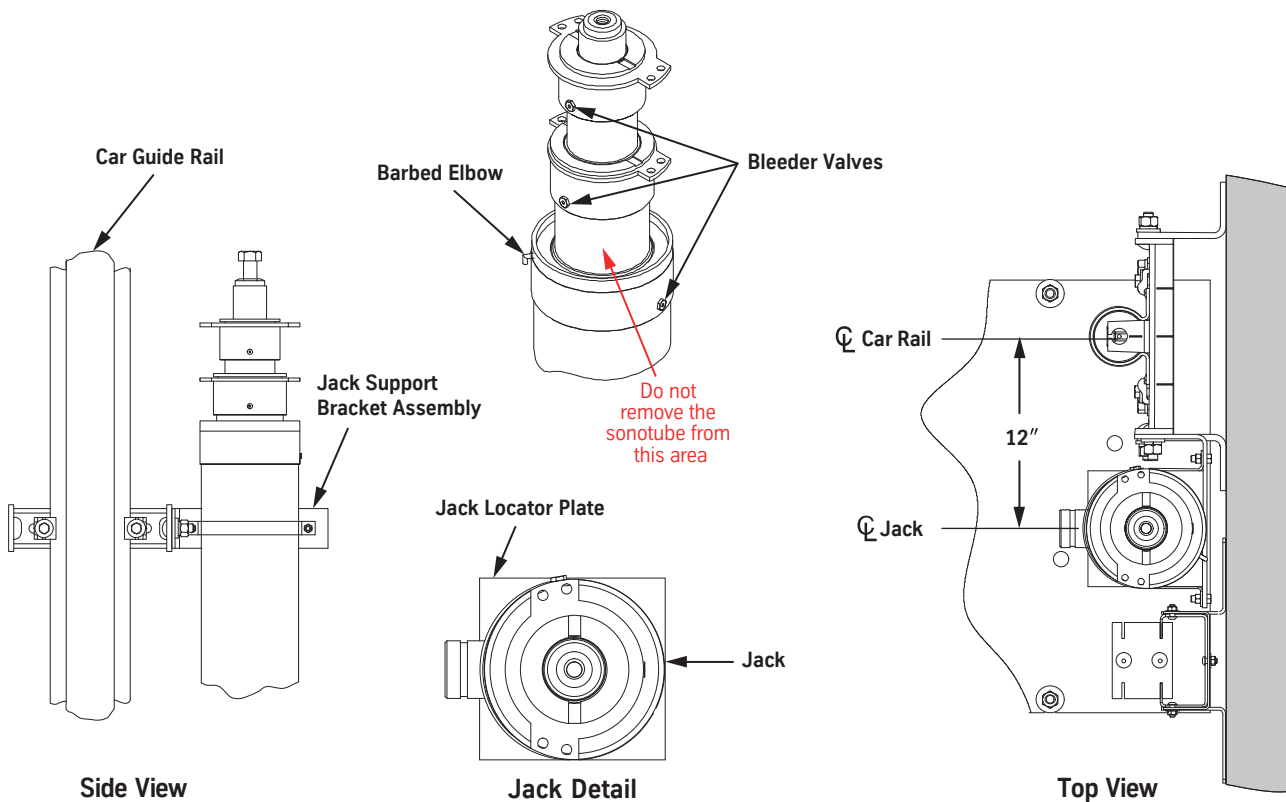
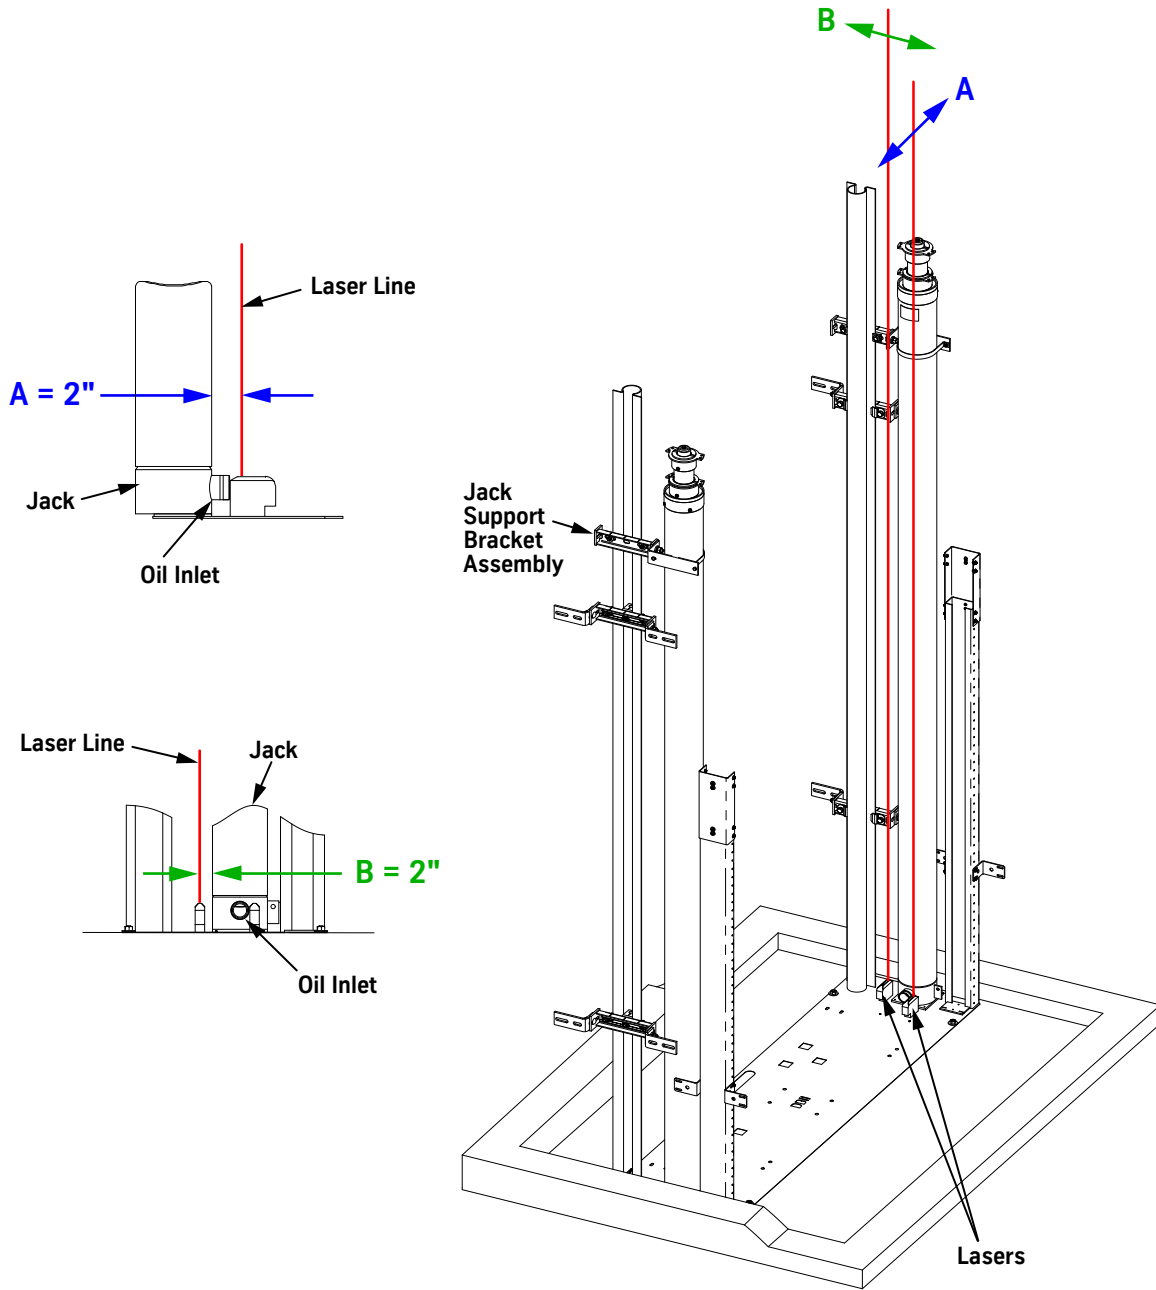

Figure 59 - Jack Support Bracket Installation
Figure 60 - Telescoping Jack Installation
1. Attach the jack support bracket to the car guide rail just below the top of the jack casing. See Figure 59 below and Figure 60 on page 1-90 for all steps in this procedure.